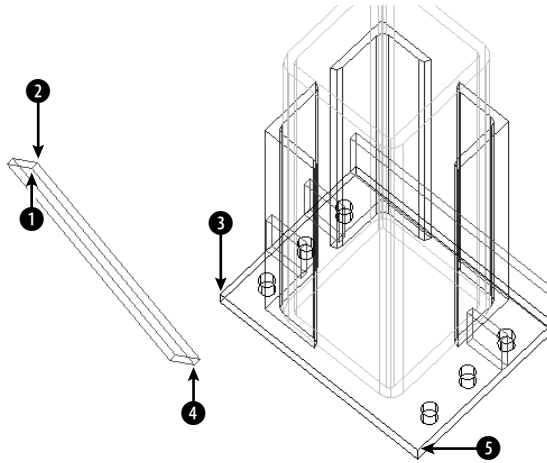

Figure 24-30: Part of a base assembly for an industrial washer with a sidebar that needs to be moved and rotated into place.
- Save the file as `ab24-09.dwg` in your AutoCAD Bible folder. You see part of the base assembly for an industrial washer, as shown in Figure 24-30. One sidebar needs to be moved and rotated into place. Make sure that OSNAP is on. Set a running object snap for endpoint.
- Notice that it's hard to tell which way the sidebar is facing because it's displayed in wireframe. Apply the HIDE command. You can now see that ❶ in Figure 24-30 is facing away from you. Use the REGEN command to get back to wireframe display.
Specify first source point: *Pick 1 in Figure 24-30.*